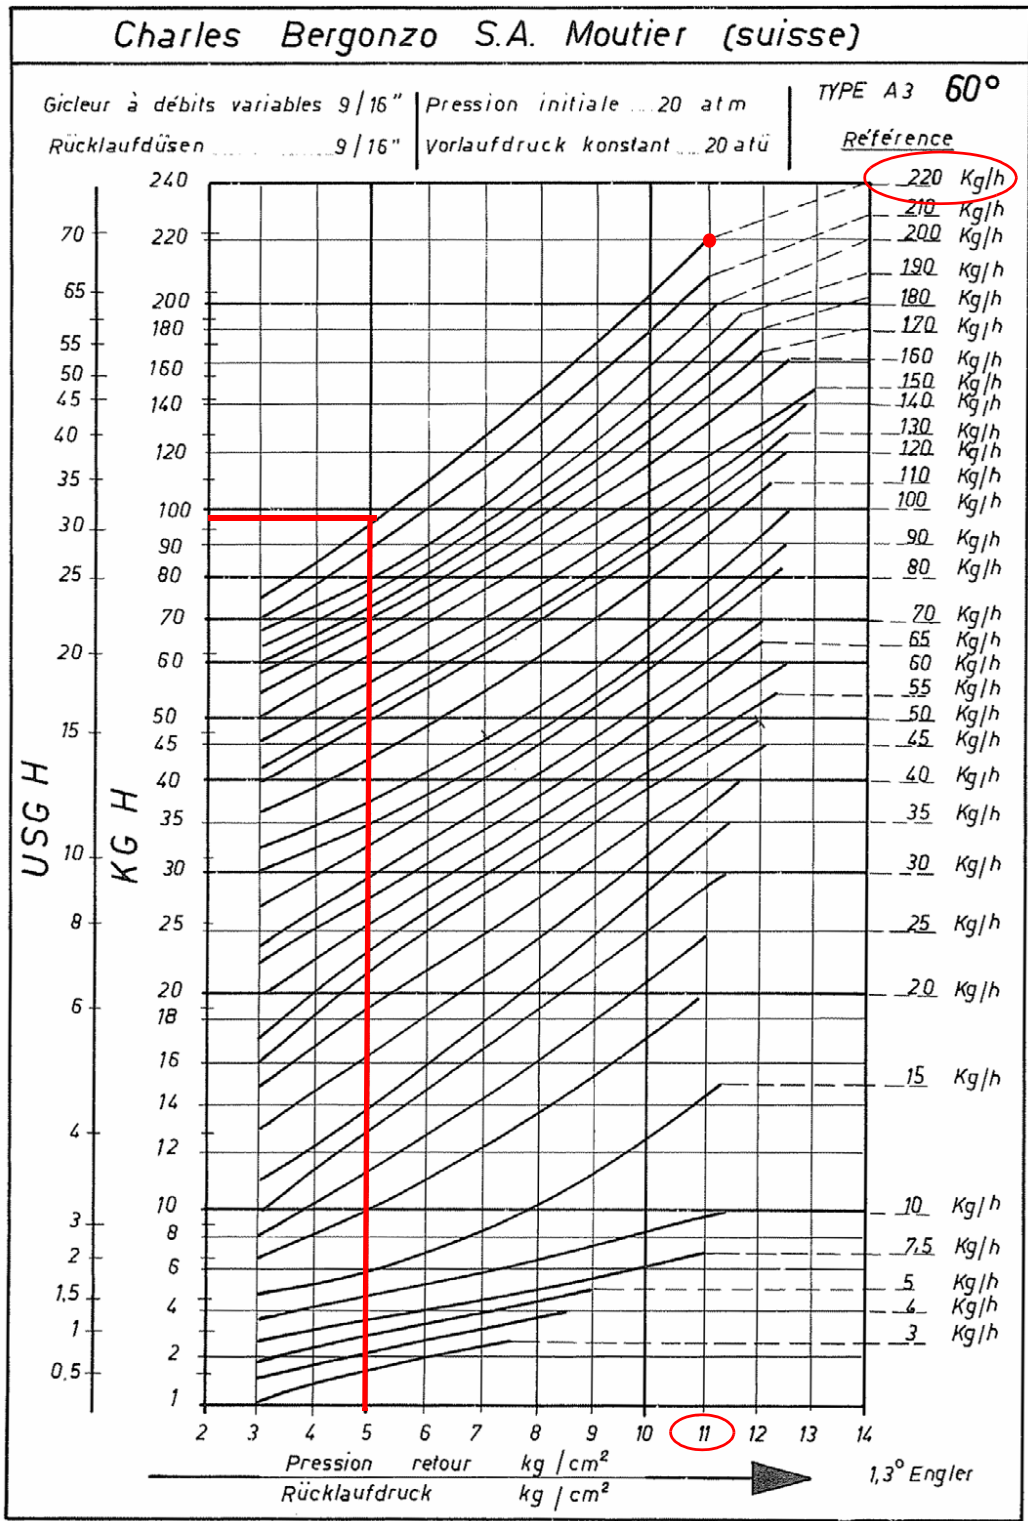

Fig. 10
9 the nozzle supply pressure is already factory-set and must not be changed. Only if necessary, adjust the supply pressure as follows (see related paragraph); insert a pressure gauge into the port showed on Fig. 15- Fig. 16 and act on on the pu mp adjusting screw **VR** (see Fig. 14) as to get the nozzle pressure at 20bar (Bergonzo nozzles - see diagram on Fig. 10).
- 16 move cam III (low flame) towards the minimum to move the actuator towards the low flame until the two bearings find the adjusting screw that refers to a lower position: screw **V** to increase the rate, unscrew to decrease, in order to get the pressure as showed on diagram in Fig. 10, according to the requested rate.